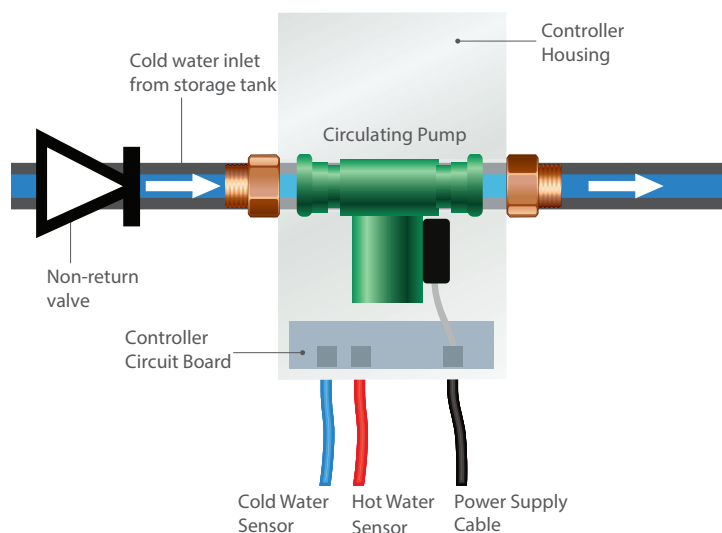

Figure 26: Circulating Pump With Hot and Cold Sensor Connections
- In case of an active SWH system, the electrical connection to the pump needs to be arranged such that it is well insulated from any water leaks or drips (Figure 26). Similar arrangements need to be done for electric booster elements as well.